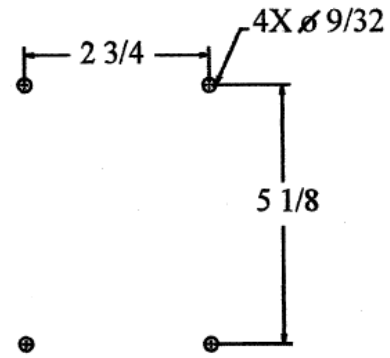

Figure 7. D167/D267 Mounting Pattern
1. Use pattern in Figure 7 for mounting power supply on your machine. Mount power supply following instructions included with power supply.